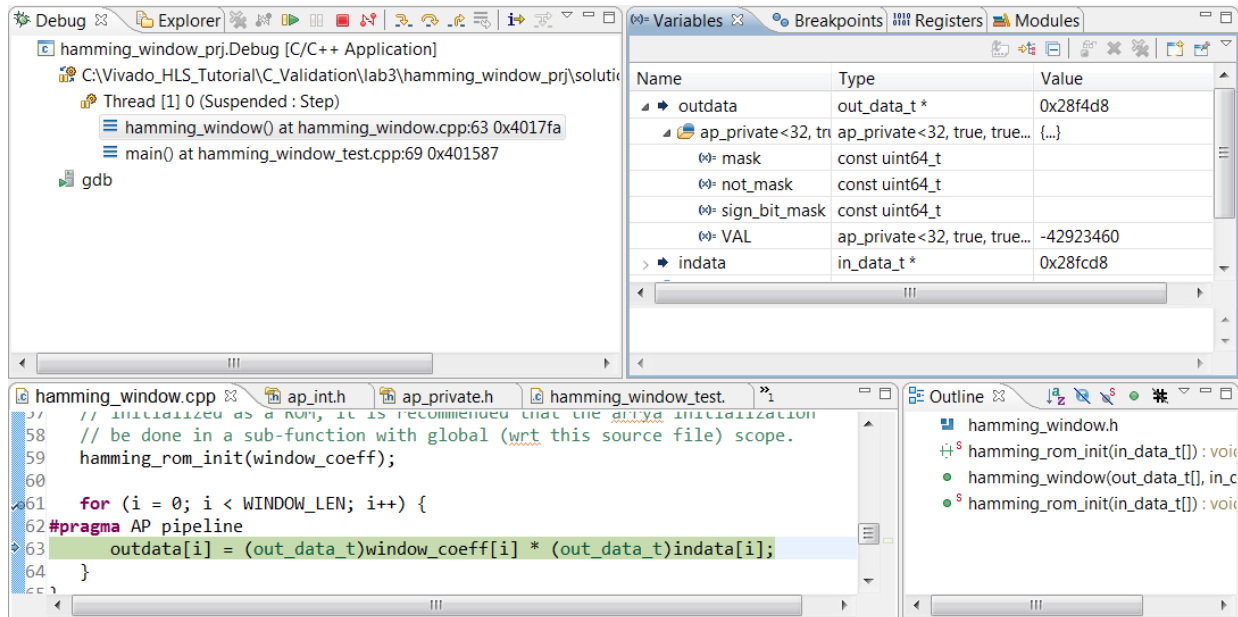

Figure 3-22: Arbitrary Precision Variables
10. Expand the `outdata` variable, as shown in Figure 3-22 to see the value of the variable shown in the VAL parameter.